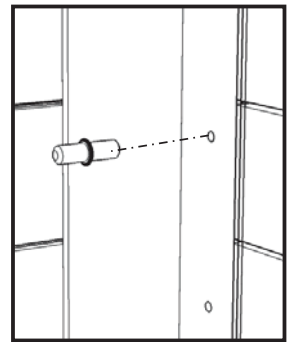

Figure 1
Insert Adjustable Pins into side panels at the desired level (See Figure 1), then place Shelves (B) into position.